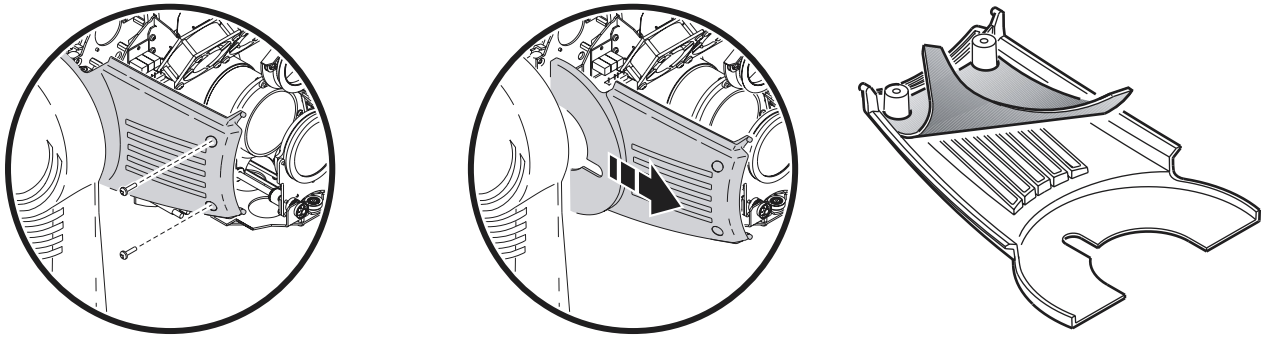

Figure 16: Air filter replacement
- 7 On each side of the head, remove the 2 screws that hold the side covers. Slide the covers forward to remove. Clean the air filters or replace them. If they are saturated with smoke fluid, etcetera, soak them in warm soapy water and blot dry. Position the filters on the side covers and reinstall. See Figure 16.